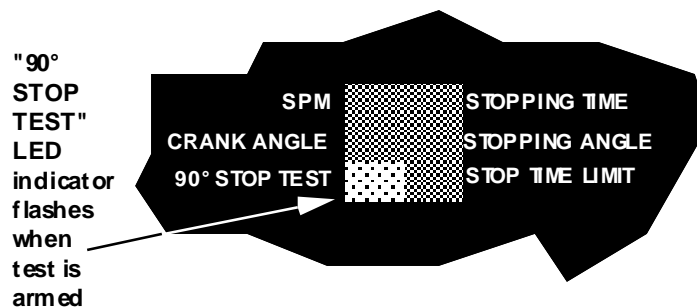

Figure 3-3. Display indicator highlighting "90° Stop Test"
2. At Wintriss Brake Monitor, select "90° Stop Test" using the Reset/Select button (See Figure 3-3. Also refer to "How to view information on the display" if you need assistance in selecting items). Now open up the unit and locate S101 "UP" button on the main board. Press the "UP" button. This arms the 90° stop-time test.